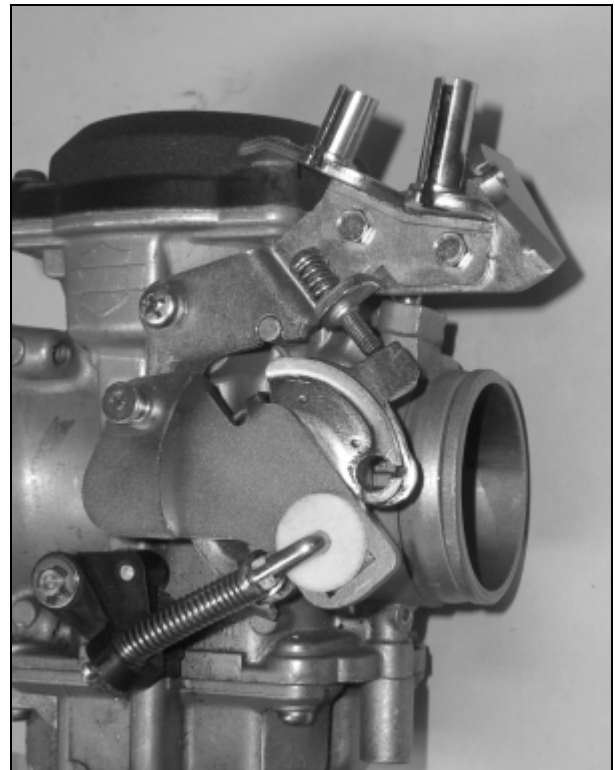

Figure 9. Carburetor with Kit Installed
17. See Figure 9. Install cruise control cable bracket to throttle cable bracket using supplied machine screws and lock nuts. Use liquid thread lock on machine screws before assembling. Make sure screw heads are on throttle cable bracket side and lock nuts are on cruise control cable bracket side. Make sure cruise control cable bracket hole and slot face away from carburetor.
18. See Figure 9. Position cruise control wheel pin bracket so retaining leg near wheel pin end of bracket will engage throttle shaft boss. Position opposite end of bracket over the protruding end of throttle shaft boss where collar was removed in Step 16.